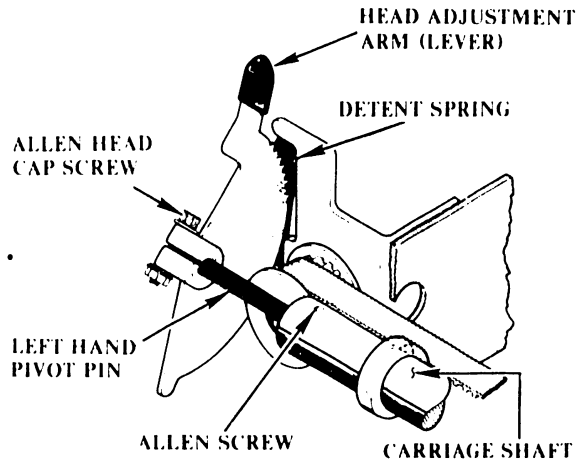

FIGURE 6-23 HEAD ADJUSTMENT ARM ASSEMBLY
- 2) Loosen the Allen-head cap screw and nut on the head alignment arm and slide it off the end of the pivot pin (see Figure 6-23).